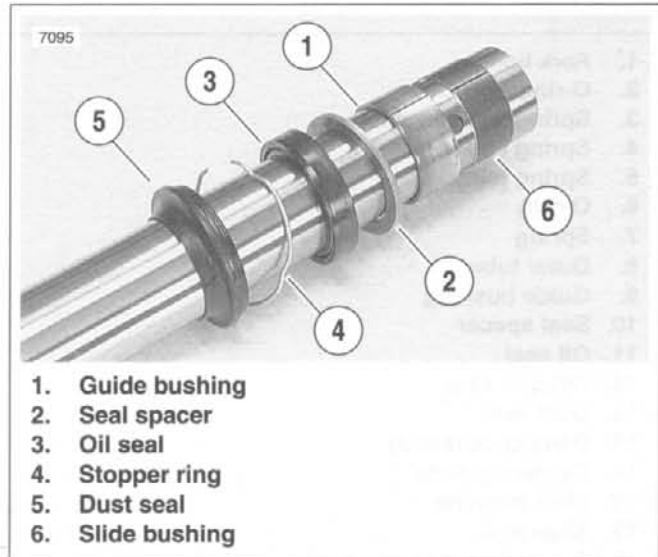

Figure 2-97. Slide Pipe Components
7. Remove the dust seal (13) and the stopper ring (12) from the outer tube (8).
8. Pull the slide pipe (17) out of the outer tube (8).
9. See Figure 2-97. Remove the guide bushing (1), seal spacer (2), oil seal (3) stopper ring (4), and the dust seal (5) from the slide pipe.
10. Remove the slide bushing (6) by prying the slide bushing at the split.
2. See Figure 2-97. Install a **new** dust seal (5) and stopper ring (4) onto the slide pipe.
3. Coat the sealing lips of the **new** oil seal (3) with fork oil or sealing grease and install onto the slide pipe with its marked side facing the dust seal (5). Remove the tape from the slide pipe end.
4. Install the seal spacer (2), the guide bushing (1) and the slide bushing (6) onto the slide pipe.
5. Coat the slide bushing (6) and the guide bushing (1) with fork oil.